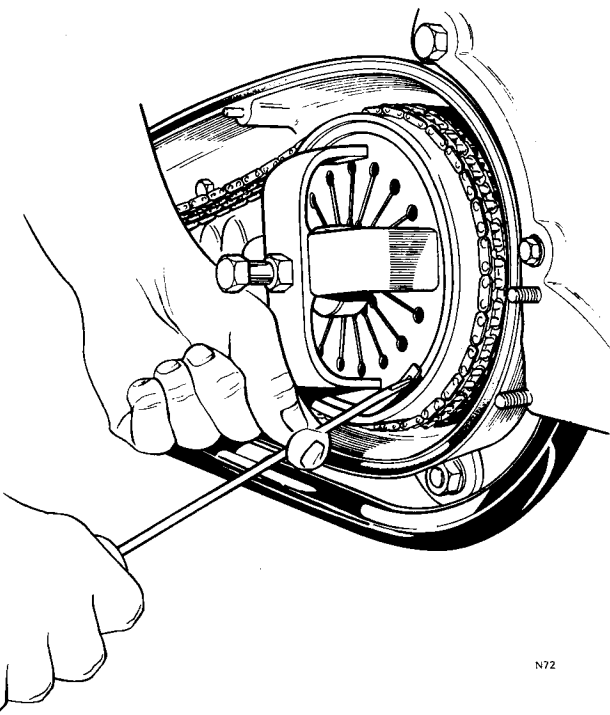

Fig. C14 Using a screwdriver blade to peel circlip away from housing
- 8 When the spring is compressed and free to rotate and using a screwdriver blade as shown in *Fig. C14*, lift the first end of the diaphragm spring clear of the circlip groove in the housing and commence to peel the circlip away from the groove.